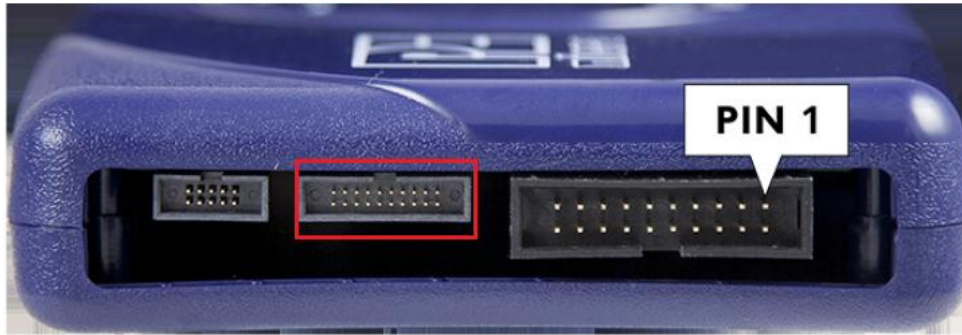

Figure 19. 20-pin keyed mini connector – Cyclone for ARM® Devices
- Connect a 20-wire flat ribbon cable between 20-pin keyed mini connector (Figure 19) of Cyclone for ARM® Devices and 20-pin header JF_H1 (of Isolator Board). Make sure the red strip on the ribbon cable aligns with the pin#1 (of 20-pin header) on both sides of the cable.